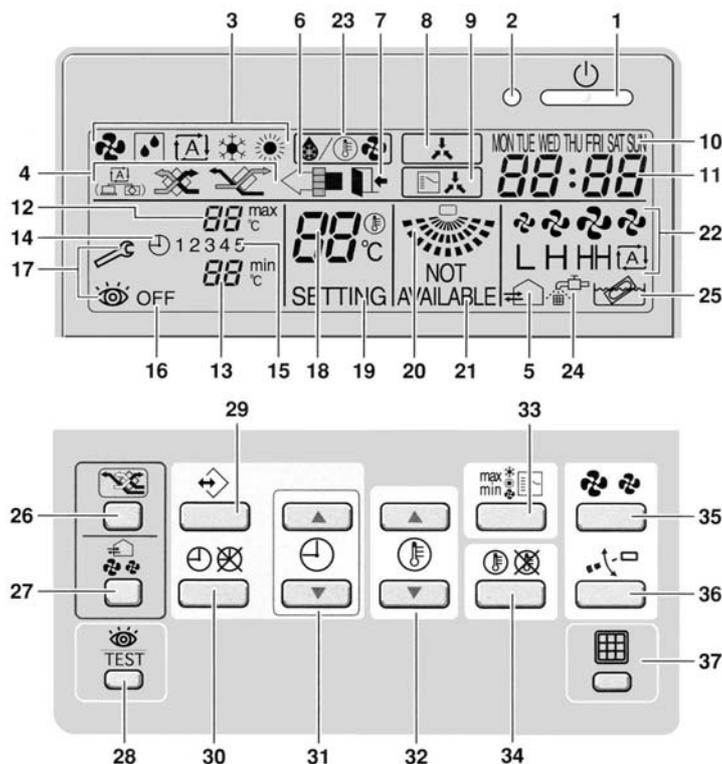

Figure 1
4.1.4 Name and Function of Switches and Icons (Refer to figure 1)
1. Remove the upper part of remote controller (Refer to figure 1)